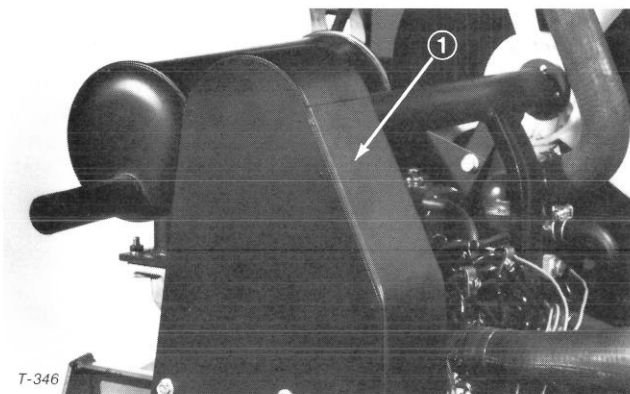

Figure 54
2. Remove capscrews (5) securing fan belt guard and remove guard (Fig. 54).
5. Install fan belt guard and secure with capscrews (Fig. 54). Close and latch hood.
4. Install fan belt guard and secure with capscrews (Fig. 54). Close and latch hood.